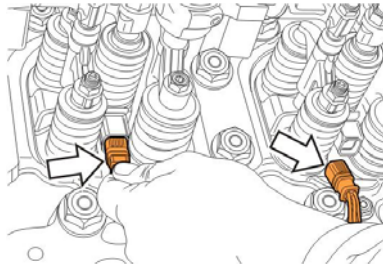

FIG.3
10. Reconnect the harness connectors to the unit injector terminals. Push the connector until a distinct “click” is heard to ensure the connector is fully engaged (fig.3).